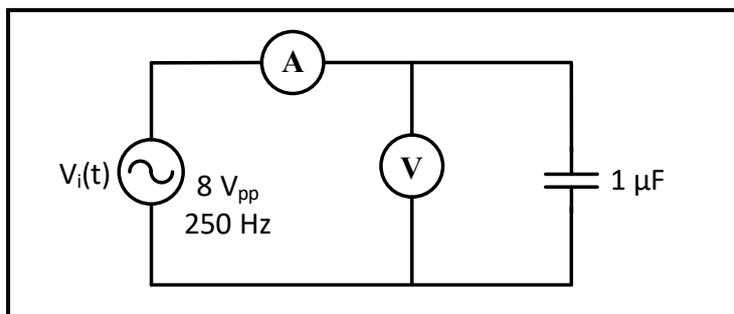

Figure 8.8
2. Connect the circuit in Figure 8.8, set V_{in} to sinusoidal voltage at $8 V_{pp}$, $f = 250$ Hz.
- a. Repeat steps (a) and (b) in (1) for the circuit in Figure 8.8 record results in Table 8.2.